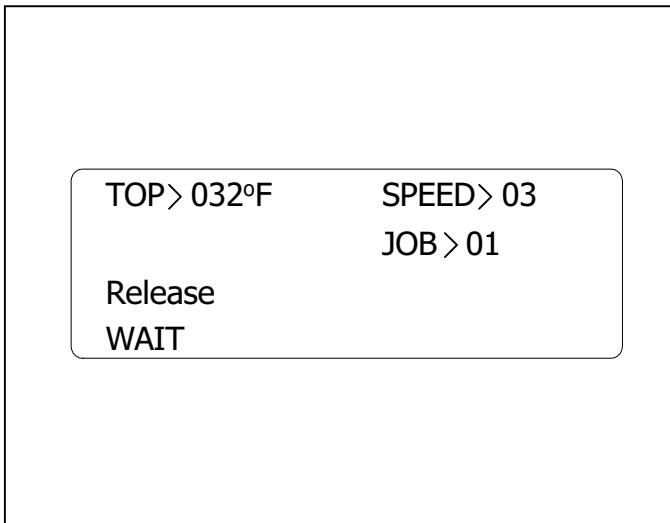

Fig. 5
(Figure 5) Illuminates when the laminator is plugged in and **POWER ON/ OFF** is in the on, (I), position. Displays settings for top heater, bottom heater, speed, Job, mode and ready/wait/ positioning indicator.